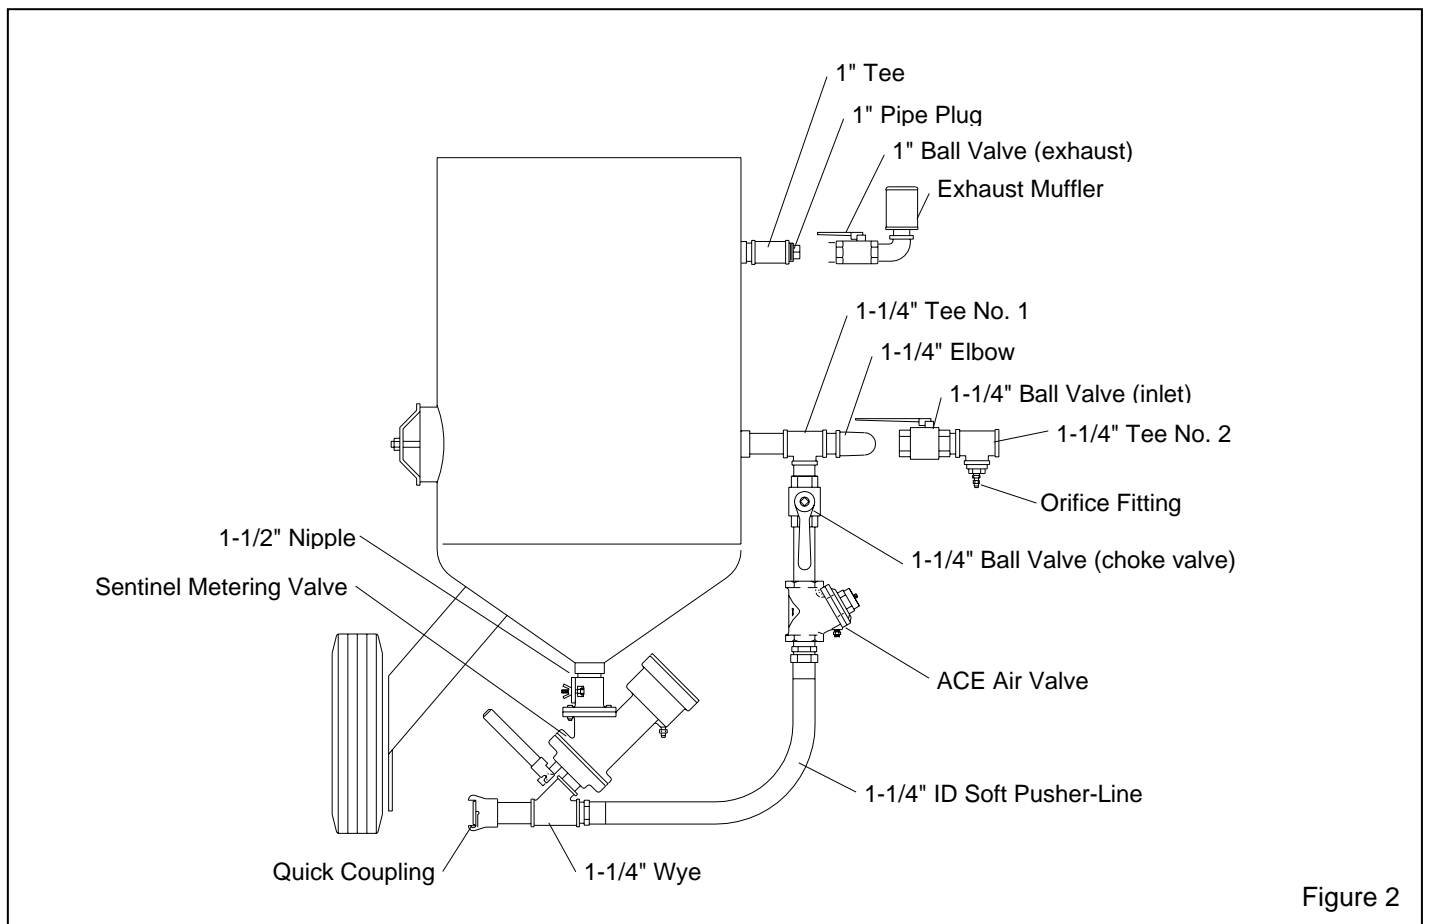

Figure 2
2.2 Field Installation: Refer to Figure 2.
2.2.6 Install a 1-1/4" pipe tee (tee #1) at the blast machine inlet as shown in Figure 2.